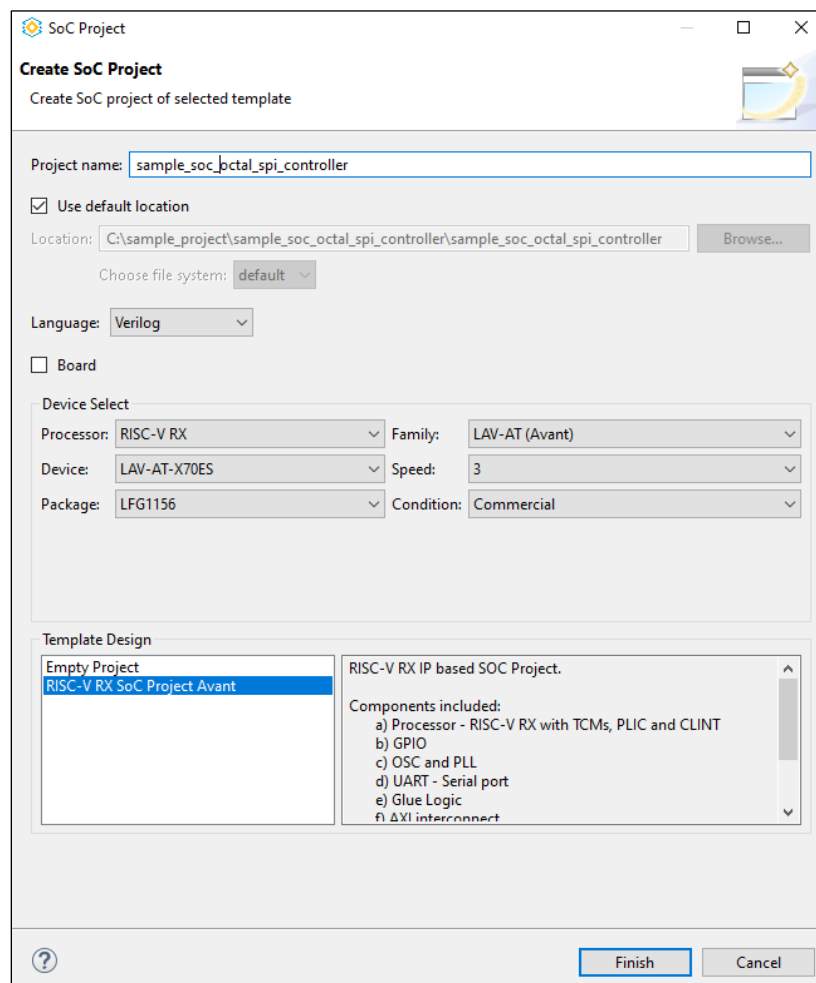

Figure 6.3. Create SoC Project
2. Create a new SoC design project by selecting **File > New > Lattice SoC Design Project**. The **Create SoC Project** window opens as shown in Figure 6.3.